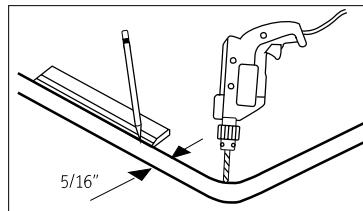

Figure 2
5. Remove sink from counter top and draw cutout line  $5/16"$  inside the original rim outside line with  $1-1/2"$  radius at corners. Drill hole at the inside corner of the cutout line. (Figure 2)